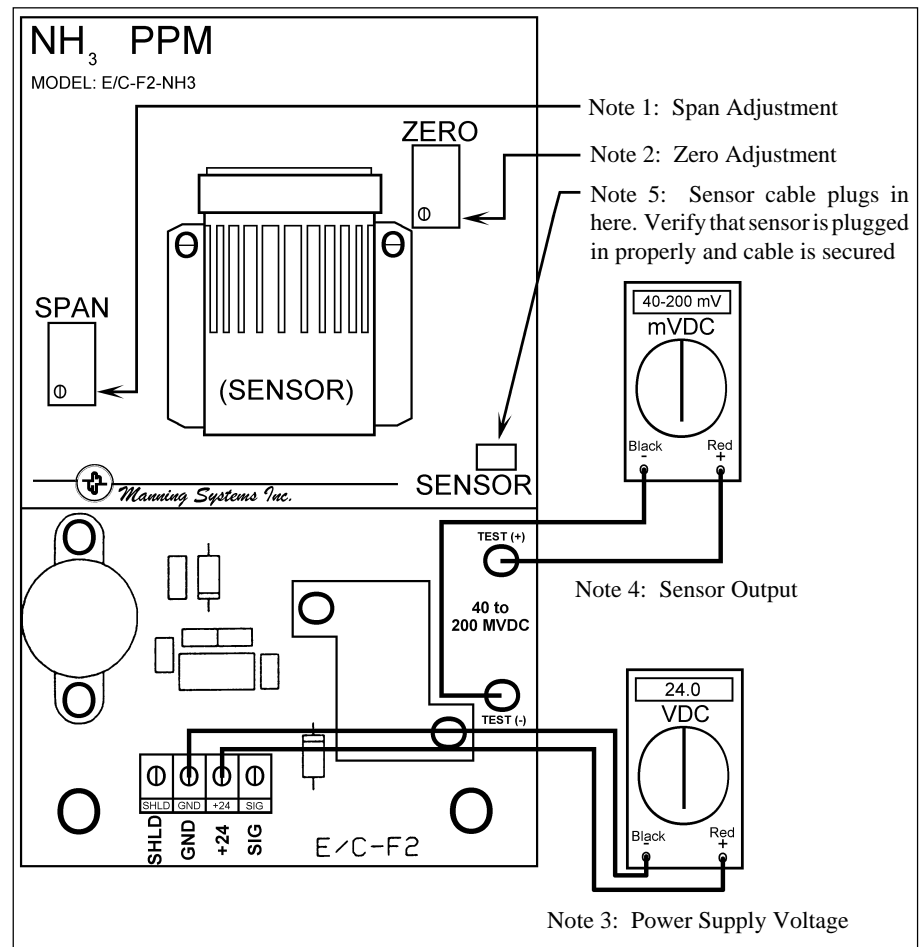

Figure 3: Checking sensor output, power supply voltage, and zero and span adjustments to the EC-F2 Sensor
Before applying power, make a final check of all wiring for continuity, shorts, grounds, etc. (see Figure 3, Note 5) It is usually best to disconnect external alarms and other equipment from the sensor until the initial start-up procedures are completed.
- Adjust the zero pot until the sensor outputs 40 mV from Test [-] to Test [+] (see Figure 3, Note 2 and 4).
- After span gas has been on sensor for two minutes, adjust the span pot until the correct output is achieved (see Figure 3, Note 1).
If the sensor output is 0 mA: First, verify +24 VDC at the sensor terminal block (see Figure 3, Note 3).
Second, check voltage between Test (-) and Test (+) (see Figure 3, Note 4). Voltage should be in the range of 40 mV to 200 mV corresponding to an actual current flow of 4 to 20 mA. If this voltage is 0 mV, the signal has no path to ground. Check monitoring equipment connections and configuration. Input impedance must be 250 ohms or less.